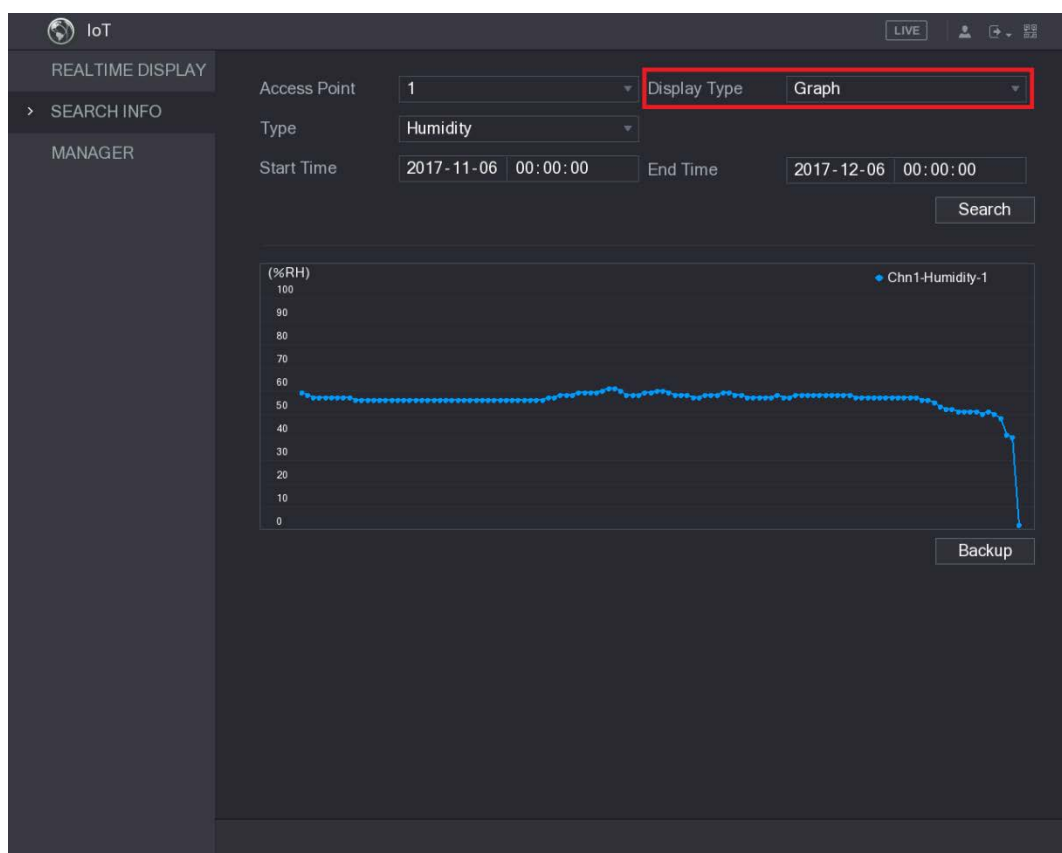

Figure 5-208
- For the data displayed in graph, see Figure 5-208.